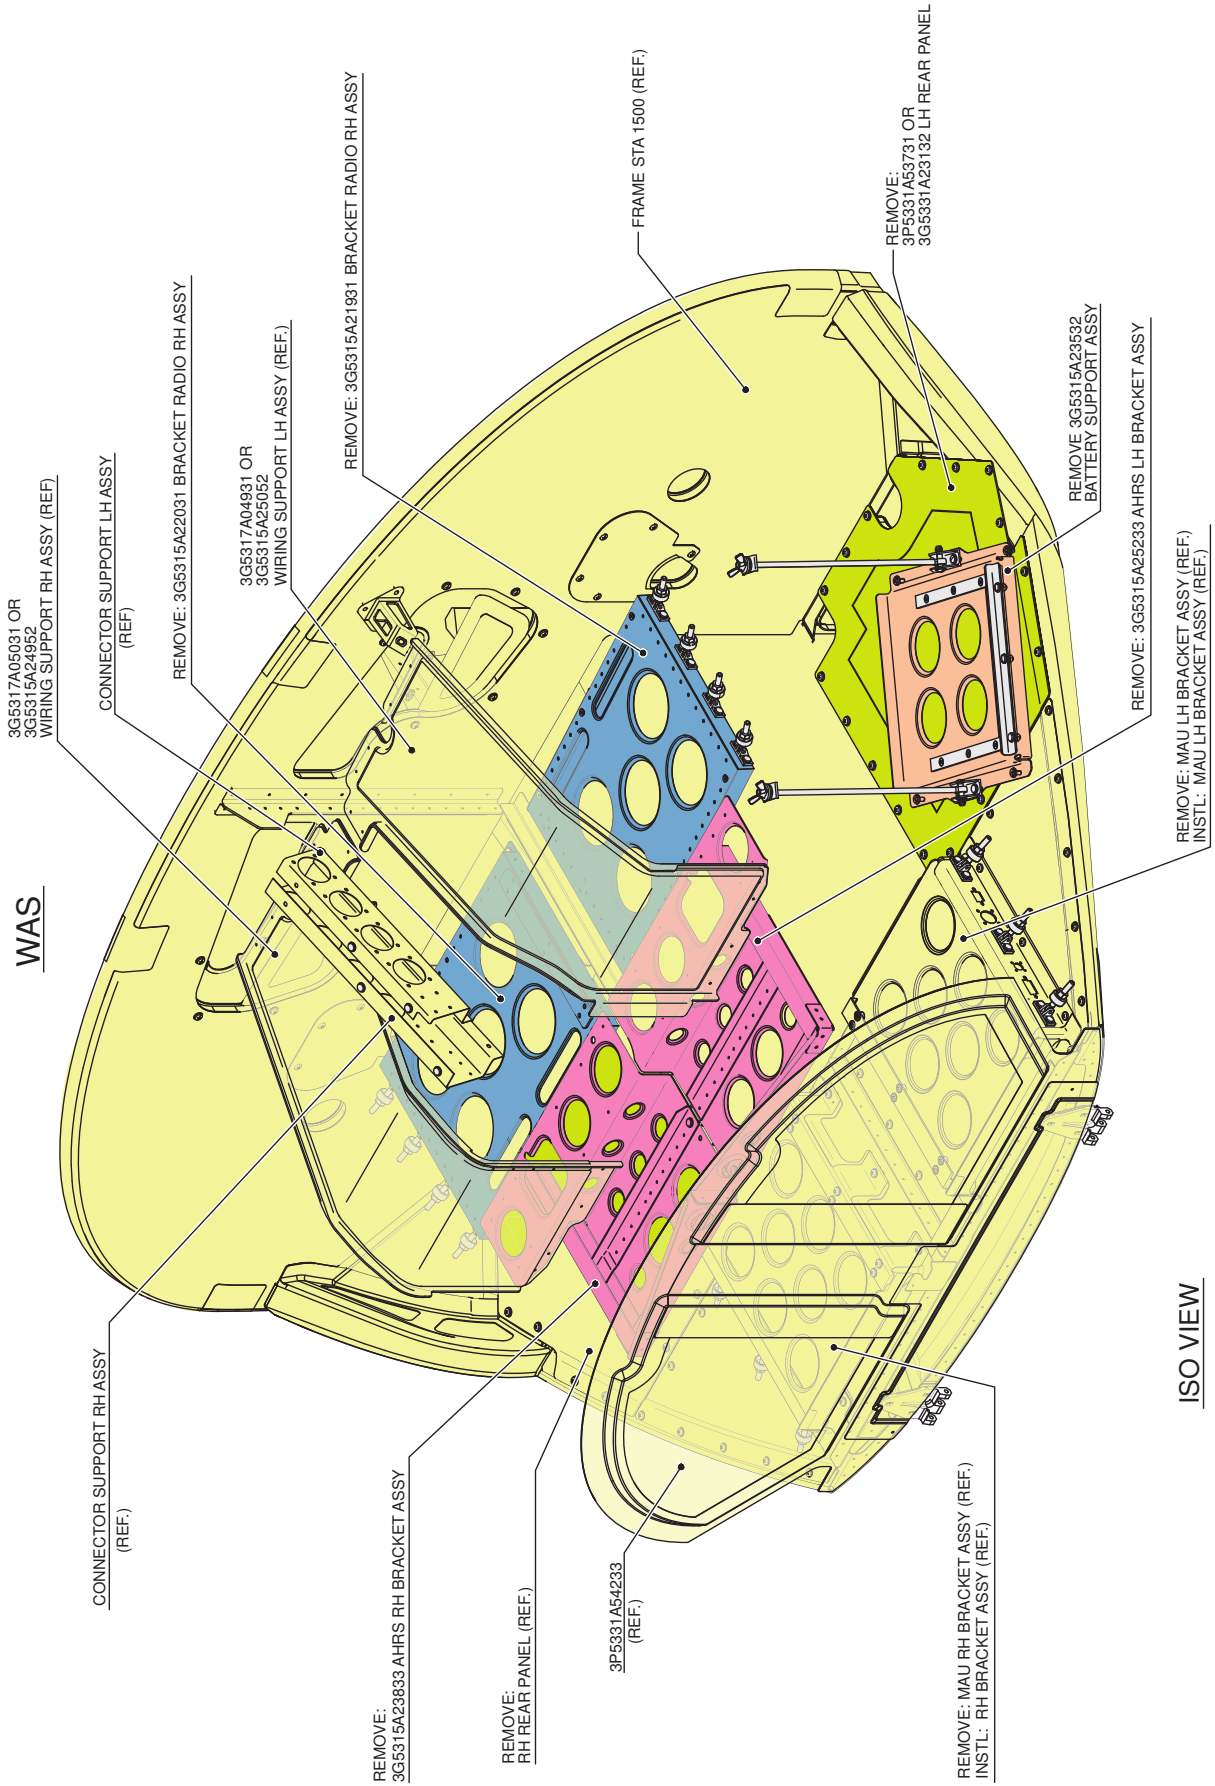

Figure 1
18. With reference to Figure 1 thru 3, perform the bracket nose installation retromod P/N 3G5306P55211, as described in the following procedure:
- 18.1 With reference to Figure 1, remove the bracket radio LH assy P/N 3G5315A21931.
- 18.2 With reference to Figure 1, remove the bracket radio RH assy P/N 3G5315A22031.
- 18.3 With reference to Figure 1, remove the AHRS LH bracket assy P/N 3G5315A25233.
- 18.4 With reference to Figure 1, remove the AHRS RH bracket assy P/N 3G5315A23833.
- 18.5 With reference to Figure 1, remove the MAU LH bracket assy P/N 3G5315A26131.
- 18.6 With reference to Figure 1, remove the MAU RH bracket assy P/N 3G5315A26331.
- 18.7 With reference to Figure 1, remove the battery support assy P/N 3G5315A23532. Retain n°2 tie rods P/N A469A001A285, n°2 strips P/N 999-0500-95-101, n°2 bushings P/N 999-0050-36-101, n°2 washers P/N NAS1070-416 and n°2 nut plain wings P/N MS35426-14 for later reuse.
- 18.8 In accordance with aircraft configuration and with reference to Figure 1, remove the LH rear panel P/N 3P5331A53731 or P/N 3G5331A23132.